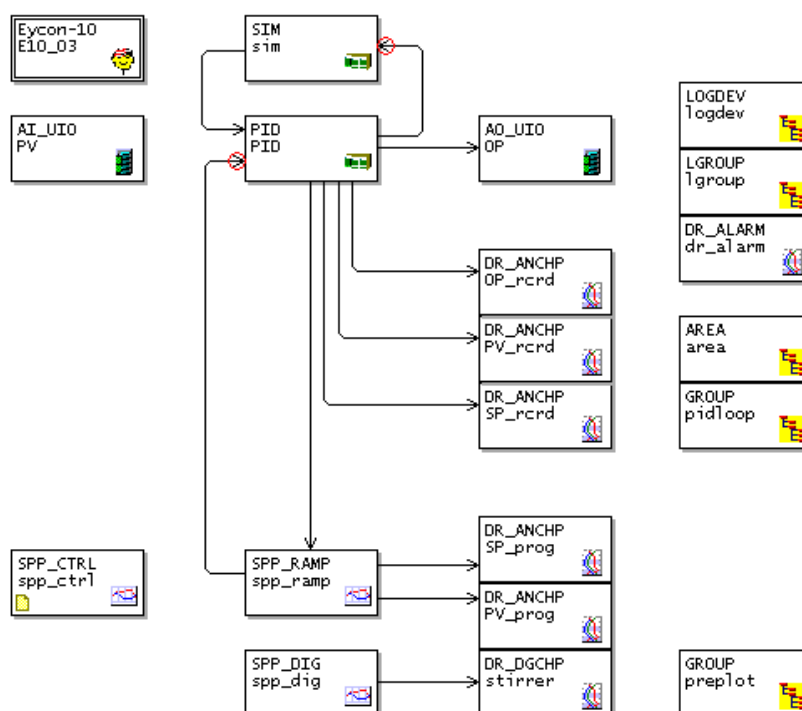

Figure 4-3a Modified data logging strategy for testing
- 2 Place a SIM simulation block on the worksheet, as shown in Figure 4-3a.